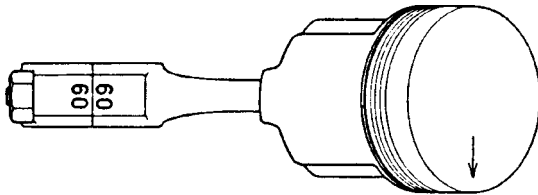

Fig. 49. Assembly of piston and connecting rod (MD2010, MD2020)
3. Heat up the piston to approx. 100°C (212°F). Place the piston and connecting rod so that the markings correspond with Fig. 49 or 50.
**MD2010, MD2020:** With the marking on the connecting rod's side upwards the arrow on the piston top should be turned in the same direction as per Fig. 49.